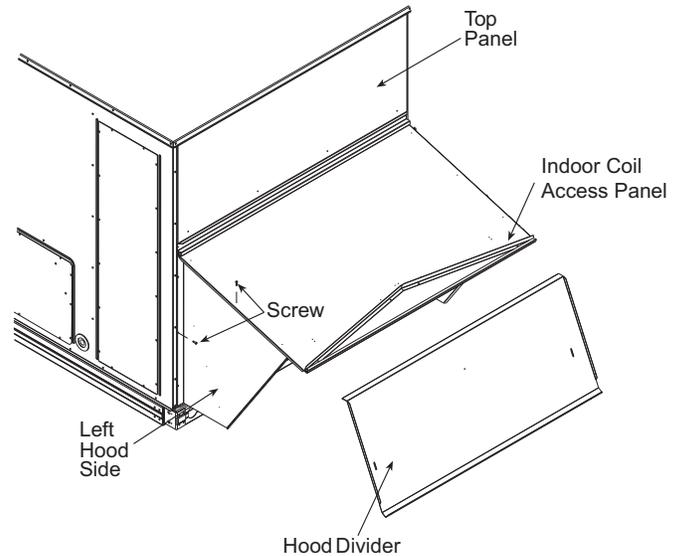

Fig. 18 – Economizer Hood Construction
2. Swing out indoor coil access panel and insert the hood sides under the panel (hood top). Be careful not to lift the panel too far as it might fall out. Use the screws provided to attach the hood sides to the hood top and to attach the hood sides to the unit. See Fig. 18.
4. Insert the hood divider between the hood sides. See Fig. 18 and 19 for construction and installation. Secure hood divider with 3 screws on each hood side. The hood divider is also used as the bottom filter rack for the aluminum filter.